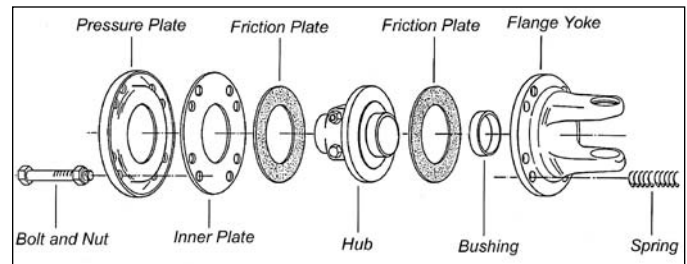

Figure 53, Exploded view of torque limiter
5. Check the condition of all parts, especially the friction discs (Figure 53).